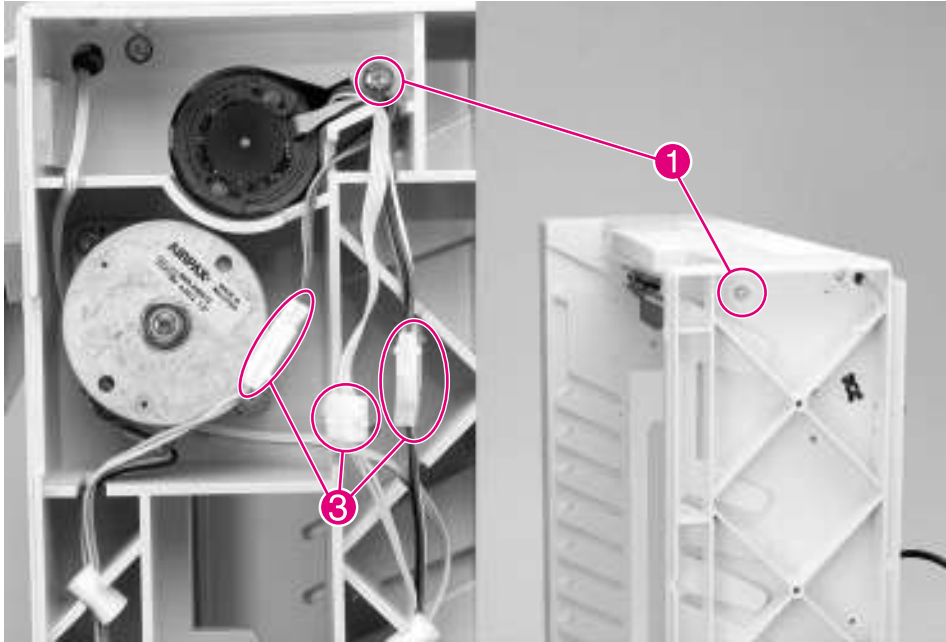

Figure 6-156 8-bin Mailbox Flipper Assembly (1 of 3)
- 3 Remove the 2 screws closest to the upper-left side of the 8-bin Mailbox: 1 screw on the front and back sides of the 8-bin Mailbox frame (Figure 6-156, callout 1).
- 5 Unplug the Flipper Assembly's 3 cables from the connectors that are located on the 8-bin Mailbox unit's back side (Figure 6-156, callout 3).
- 2 Route the Flipper Assembly's 3 cables through the back side of the 8-bin Mailbox frame and reconnect the 3 cables to the connectors (Figure 6-156, callout 3).